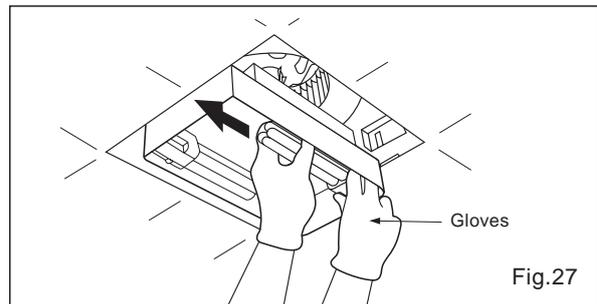

Fig.27
3. Change the fluorescent lamps (Panasonic FDS 18E27/4, 18W or FDS18E35/4, 18W or FDS18E42/4, 18W) or the 4W night lamp, connect the plug connector II and replace the grille. (Fig.27)